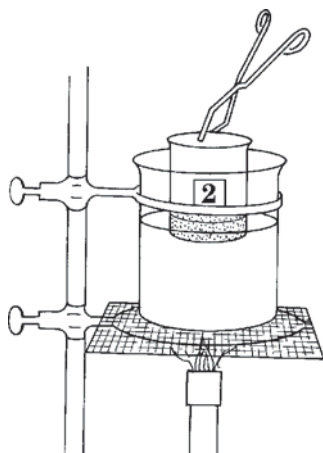

Figure 35.1
1. To prepare sample 1, put the nonpolar ingredients in a 50-mL beaker (beaker 2) and heat it in a water bath. The water bath can be a 400-mL beaker half-filled with tap water and heated with a Bunsen burner (Figure 35.1). Carefully hold the beaker with crucible tongs in the boiling water until all ingredients melt. As an alternative, use hot plates instead of a Bunsen burner.